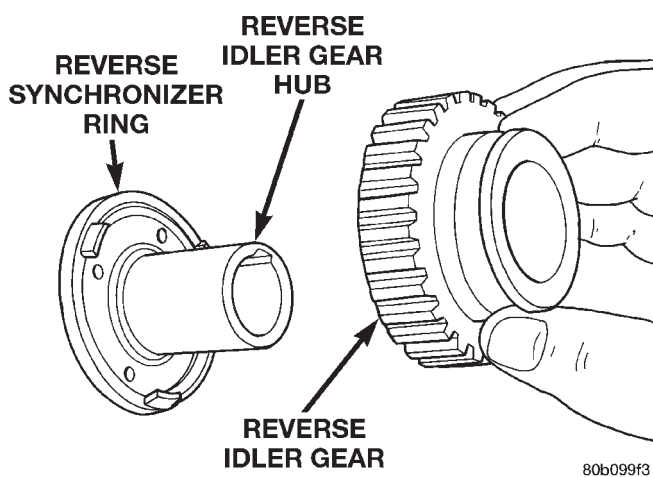

Fig. 117 Remove Reverse Idler Gear
(3) Remove the reverse idler gear from the reverse idler gear hub/race (Fig. 117).